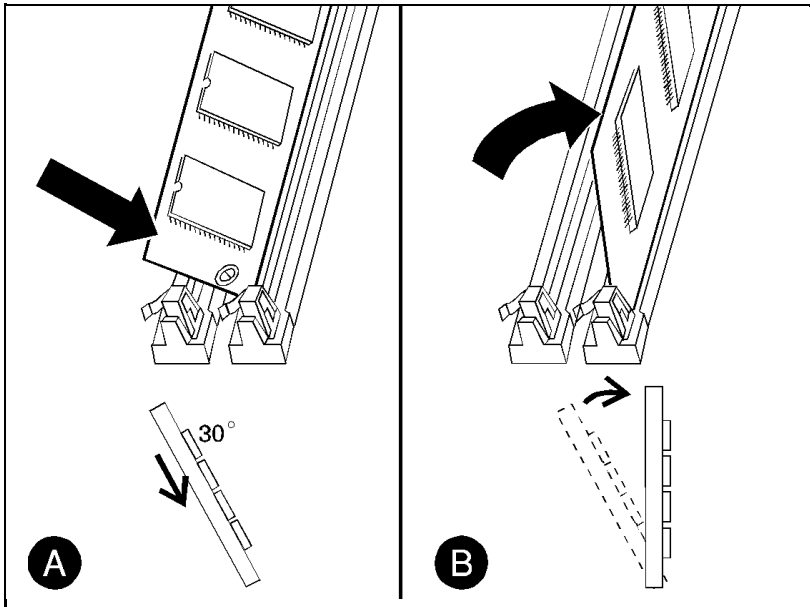

Figure 3-25 Installing the SIMM Board
- 3** Hold the SIMM board at a 30-degree angle to the slot and push the edge of the board evenly and firmly into the slot (see Figure 3-25 callout (A)).
- 4** Rotate the SIMM board to the right until the board “clicks” into the metal locking tabs, securing the board into place (see Figure 3-25 callout (B)).